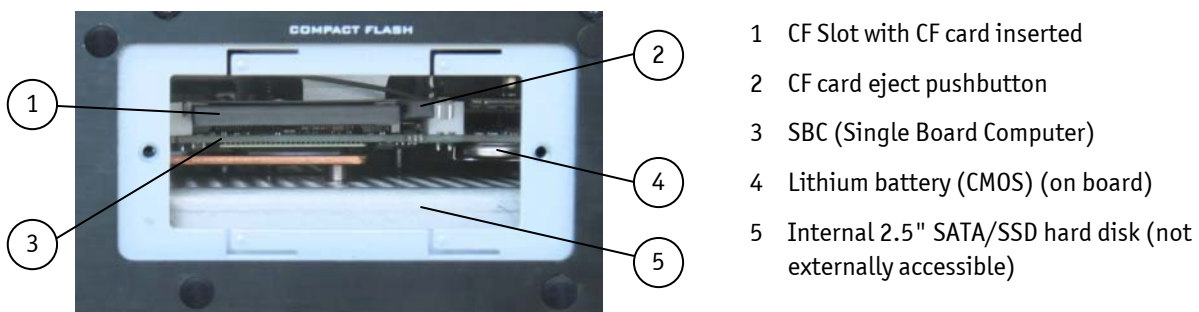

Fig. 15: Detail of the rear side with the CF slot access cover removed
4. Insert the CompactFlash™ card with the connectors facing forward into the CF slot (Fig. 15).
4. To remove the CF card, press the eject button (Fig. 15, Pos. 2).